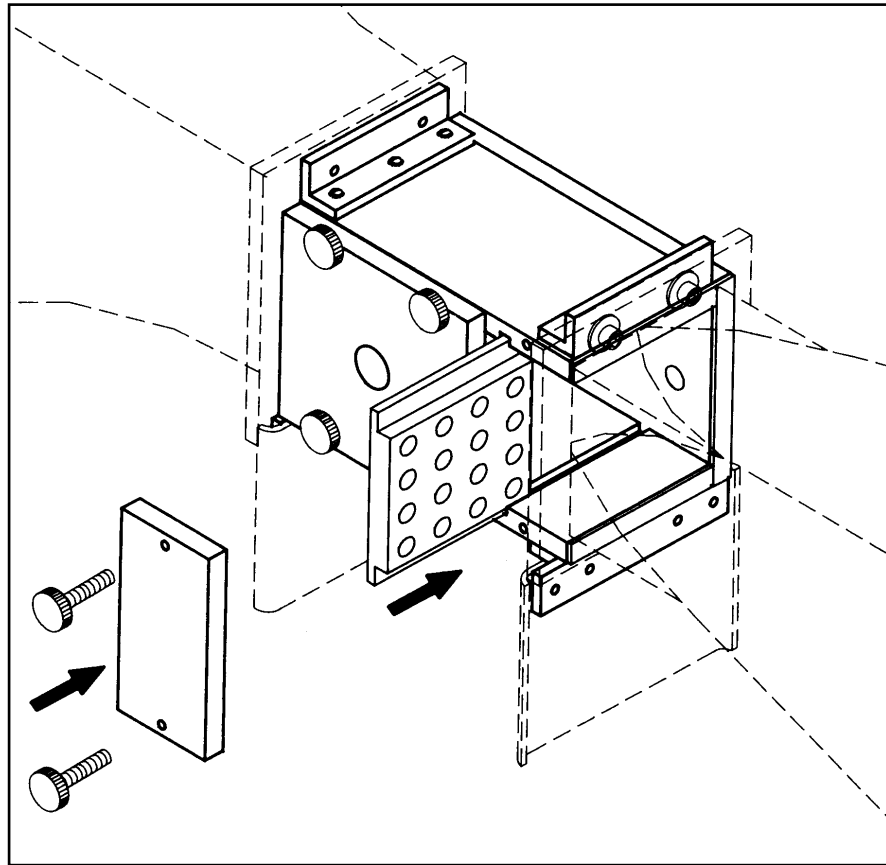

Figure 2-1. Restrictive Plate Placement
3. Slide restrictive plate into the slots in the center of the wind tunnel. Keep the flat side upstream. Refer to Figure 2-1 for the proper orientation of the restrictive plate. Or remove the plate if you don't need it.